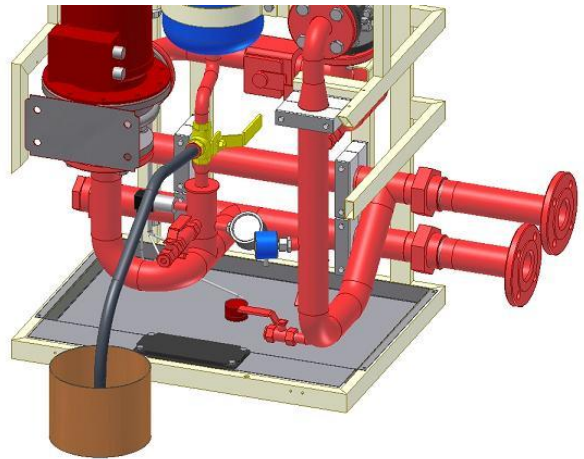

Figure 4.2-5
2. Place an eight (8) litre jar under the valve (if the expansion vessel air nozzle or membrane is broken there might be up to 8 litres in the vessel).
3. Turn the lever (marked yellow in Figure 4.2-5) on valve V160 90° so that it points away from you (points towards the back wall). This will close off the primary circuit and therefore only the liquid in the expansion vessel will come out. (There is line mark in the end of the stem, where you can also ensure the right position of the 3-way valve. This mark shows the open flow direction.)